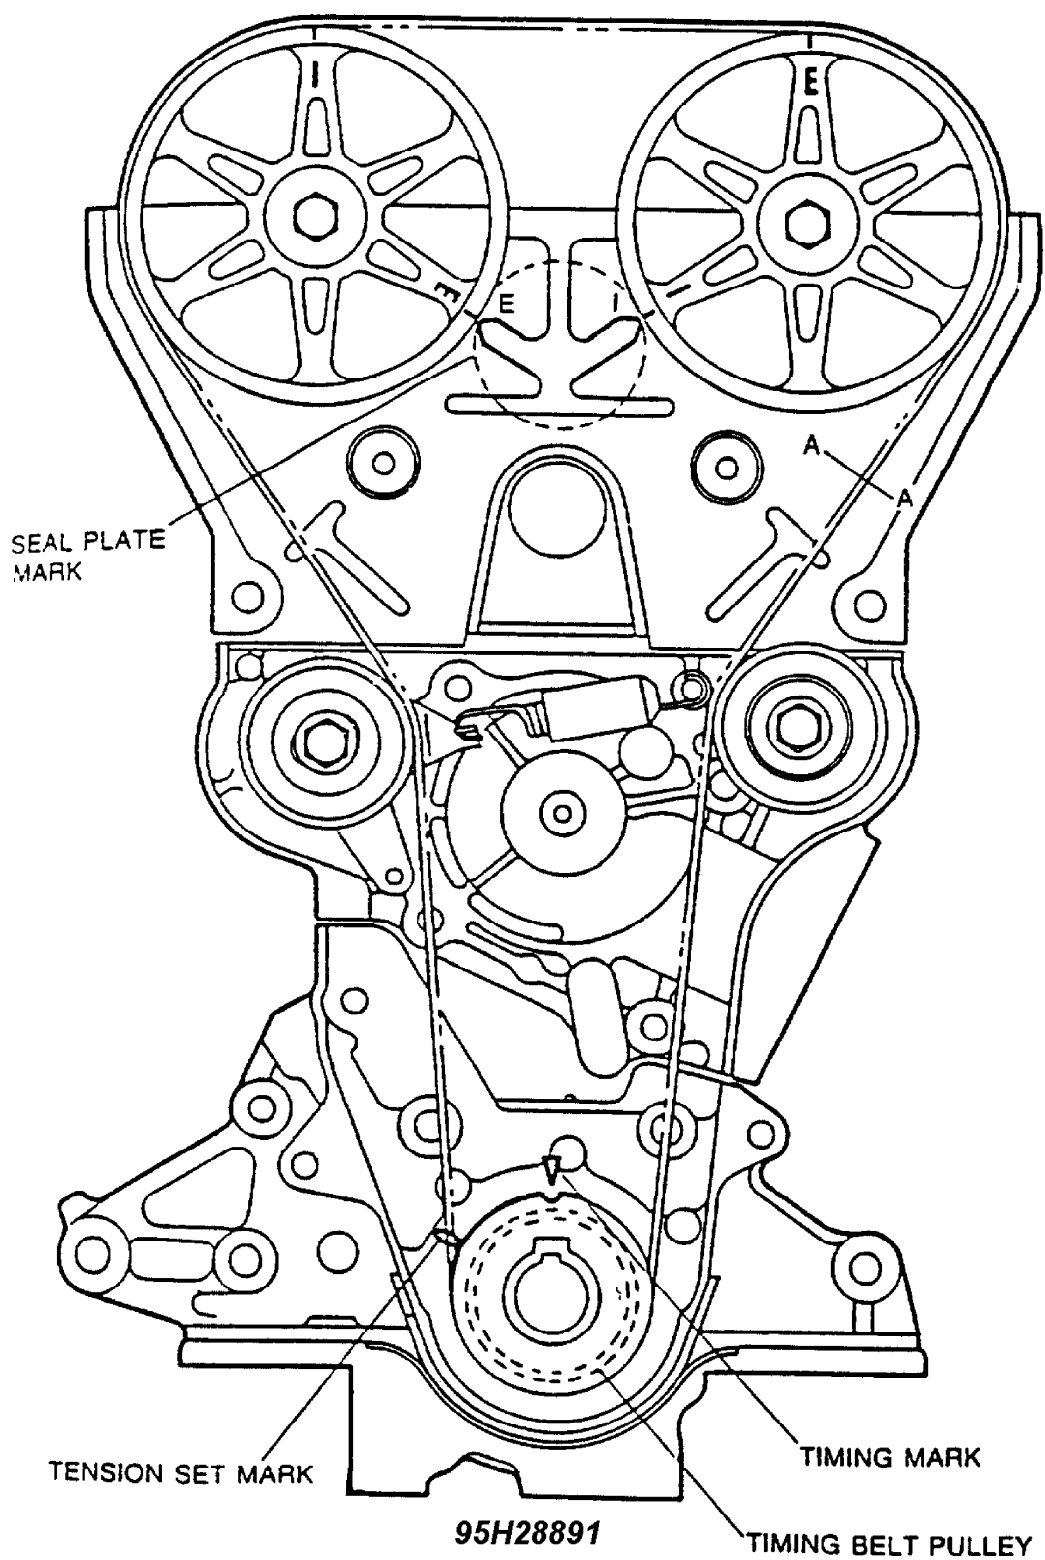

Fig. 6: Aligning Camshaft Timing Marks
1) Position notch on crankshaft sprocket to 12 o'clock position (aligned with mark on oil pump). Align timing marks on camshaft sprocket(s). See Figs. 6, and 7. Ensure crankshaft timing mark is at TDC. Install belt around crankshaft sprocket. Keeping belt pulled tight on right side (facing engine), route belt around camshaft sprocket(s).